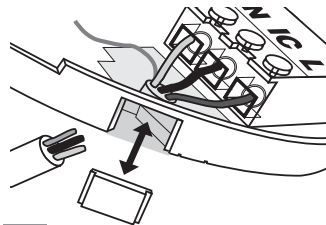

Fig.6
- the mounting plate has a removable section, take it out to interface directly with 25mm trunking as shown in Figure 6. If interfacing to 16mm trunking carefully cut around the marked section, leaving the top intact and replace the section. (If you are not using surface wiring, the removable section must be left in place for electrical safety reasons).